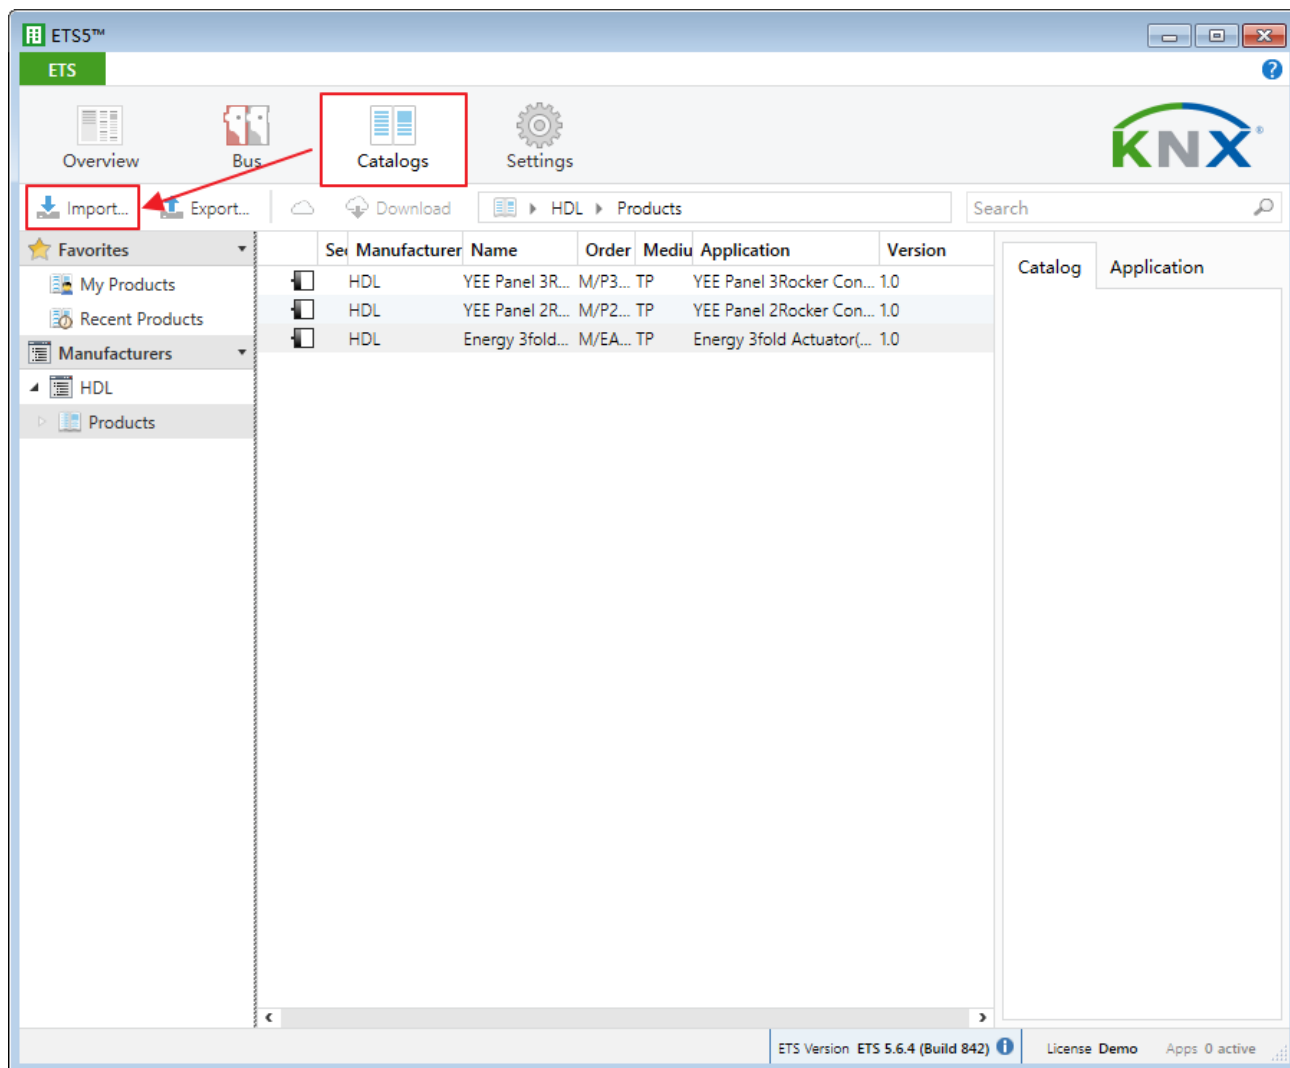

Figure 1-1 Import catalog
1. **Import Catalogs:** click “Catalogs” → “Import...” in the main page of ETS5 software and select local database files with the suffix of .knxprod, as shown in Figure 1-1.